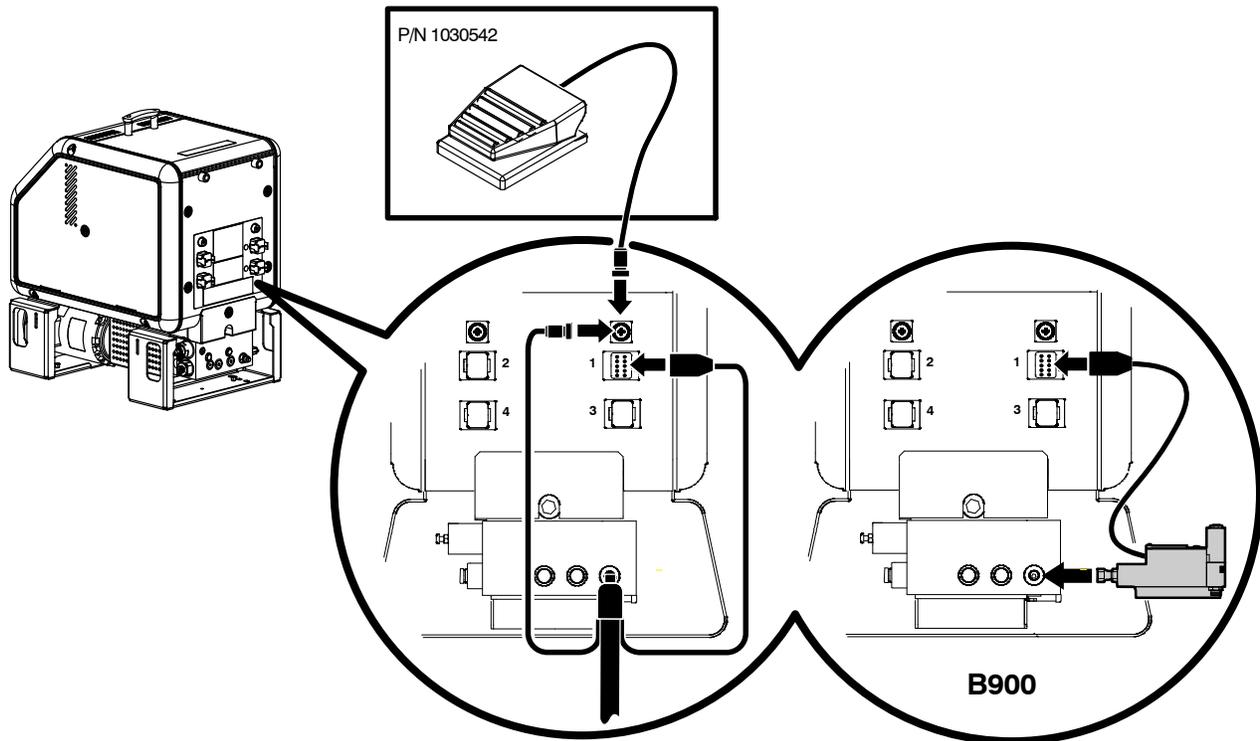

Figure 3-6 Connecting a switched handheld applicator hose, footswitch, or a B900N electric applicator
See Figure 3-6.
- See Figure 3-6. The B900N electric applicator can be connected directly to the manifold. Operating parameter 12 or 13 must be enabled if a B900N is connected. Refer to Appendix B, *Operating Parameters*.